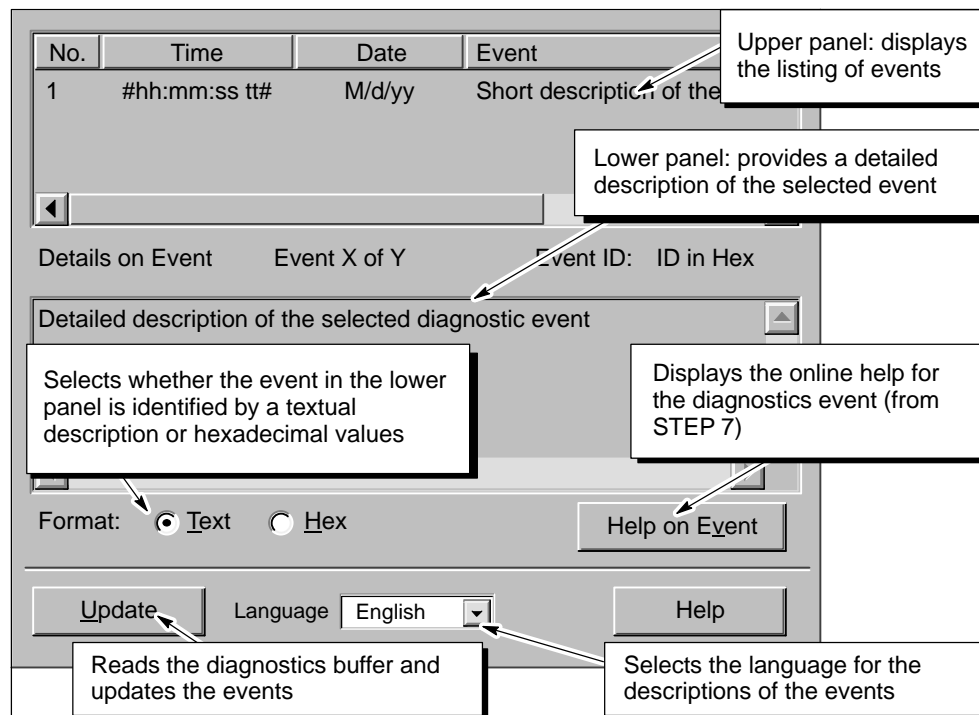

Figure 7-2 Elements of the DBuffer Control
As shown in Figure 7-2, the DBuffer control provides the following elements:
- **Enable Sort:** When selected, this property (EnableSort) allows the user to sort the diagnostic events by clicking on the headings (No., Time, Date, or Event) for the diagnostic buffer. See Figure 7-2.